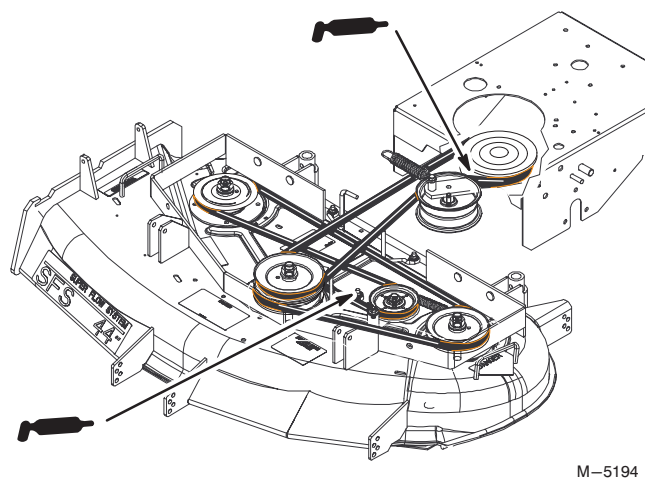

Figure 31
2. Grease the idler pulley pivots (Fig. 31).
3. Grease the idler pulley pivots (Fig. 31).